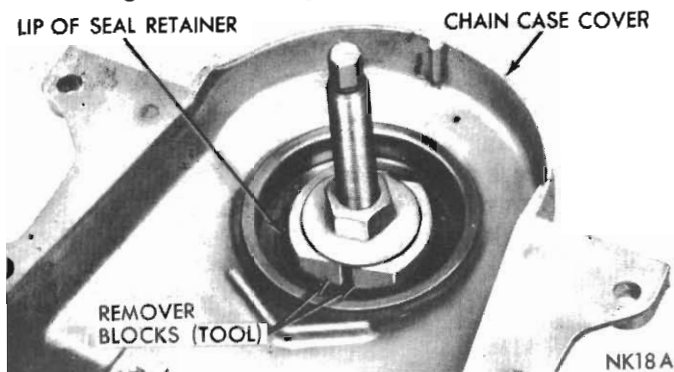

Fig. 20 - Remover block expanded to puller position (Tool E9C57A)
(1) Position remover screw of Tool E9C57A through case cover with inside of case cover up. Position puller blocks directly opposite each other, and force the angular lip between the neoprene and flange of the seal retainer.
(2) Place washer and nut on remover screws. Tighten nut as tight as possible by hand, forcing the blocks into the gap to a point of distorting the seal retainer lip (Fig. 20). This is important, remover is only positioned at this point.
(3) Place sleeve over the retainer and place removing and installing plate into sleeve.